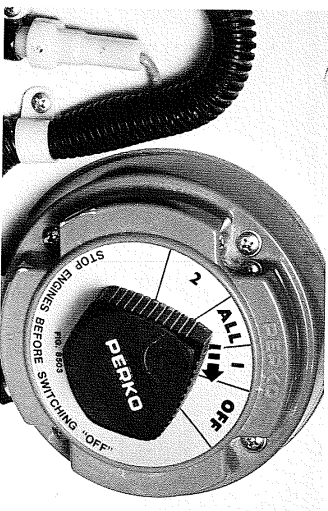

Figure 21
2. Put the battery main switch in the "Off" position. See figure 21.